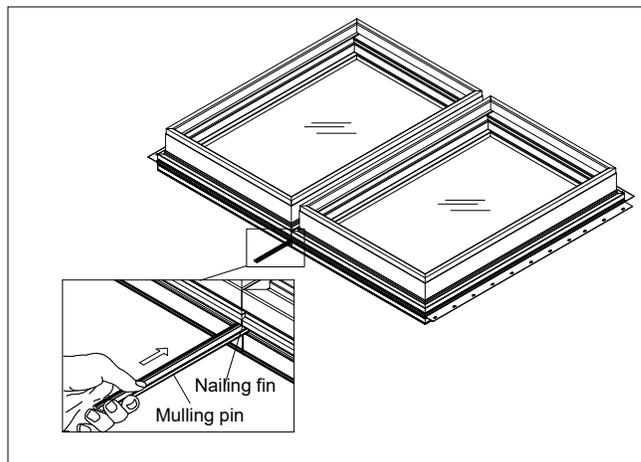

Figure 10
- Slide aluminum mulling pin into nailing fin/drip cap kerf. Make sure mulling pin is recessed at least 1/4" (6) on each end to allow for sealant placement and horizontal mulling pin application later. See figure 10.